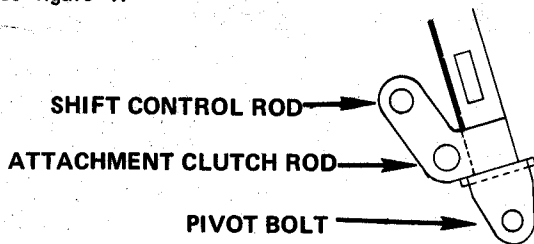

FIGURE 1
- Shift the attachment clutch handle to the "IN" position. Place a .380 washer (64093) on the end of attachment clutch rod and insert the rod into the LOWER hole in the handle. Secure with a cotter pin 1/8 x 1/2" (67018). See figure 1.
- Place shift handle in 5th speed position. Push down on shift rod. The end of the shift rod should align with the UPPER hole in the handle if the rod adjustment is correct. See figure 1. If the rod does not align with the hole, adjust the length by screwing the rod up or down until the end of the shift rod lines up with the upper hole in the control handle, then tighten the shift rod jam nut.